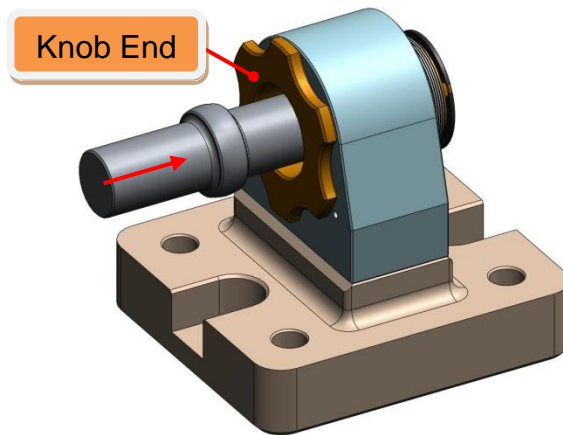

Figure 3.15. Locker Spherical Pin being inserted into Locker Sleeve.
- Insert **Locker Spherical Pin** (D047935) into **Locker Sleeve**, as shown in Figure 3.15. *Orientation is critical: short end of **Pin** should stick out of knob end of **Sleeve**.*